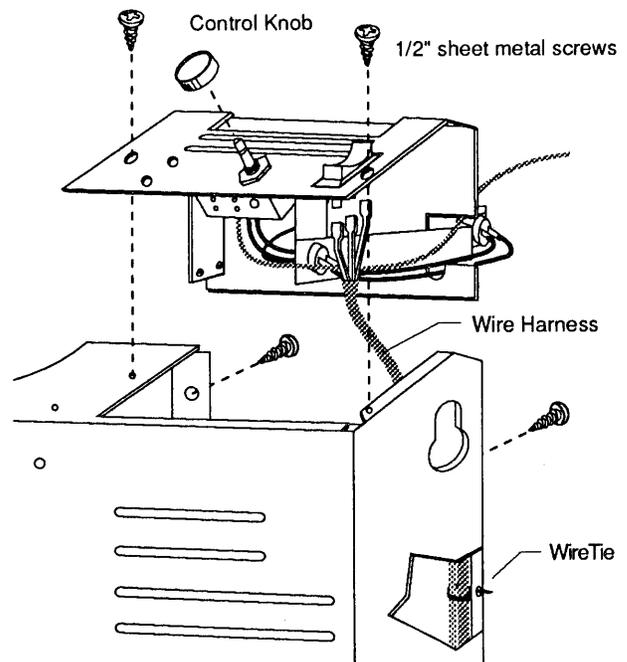

Figure 22. Install Off/On Switch Cover plate. Place the four sheet metal screws as shown. Push on the knob.
Step 7. Install the Control Switch Cover onto the Back Panel using the four #10 x 1/2" sheet metal screws supplied in the parts bag. Fig. 22.